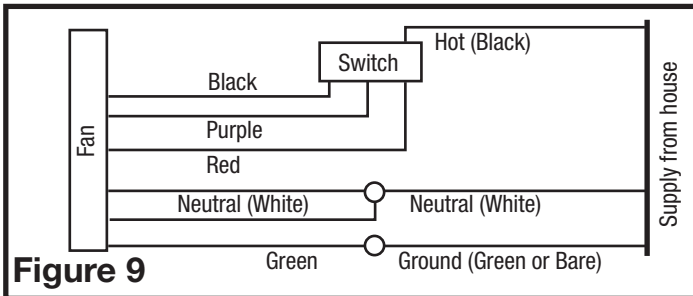

Figure 9
- 2b. From where you have chosen to access the fan's junction box, connect the White wire from the house to the two White wires from the fan. Connect one Hot (Black) wire from the wall switch to the Black wire from the fan (this is the fan control). Connect second Hot (Purple) wire from the wall switch to the Purple wire from the fan (this is the night light control). Connect the third Hot (Red) wire from the wall switch to the Red wire from the fan (this is the main light control). Connect the ground wire (green or bare copper) from the house to the Green wire from the fan (**Figure 9**). Use approved methods for all connections.